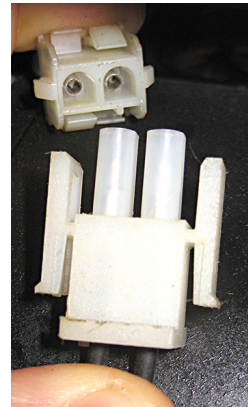

Figure 7
9. Disconnect 2-pin blower power connection (see Figure 7).